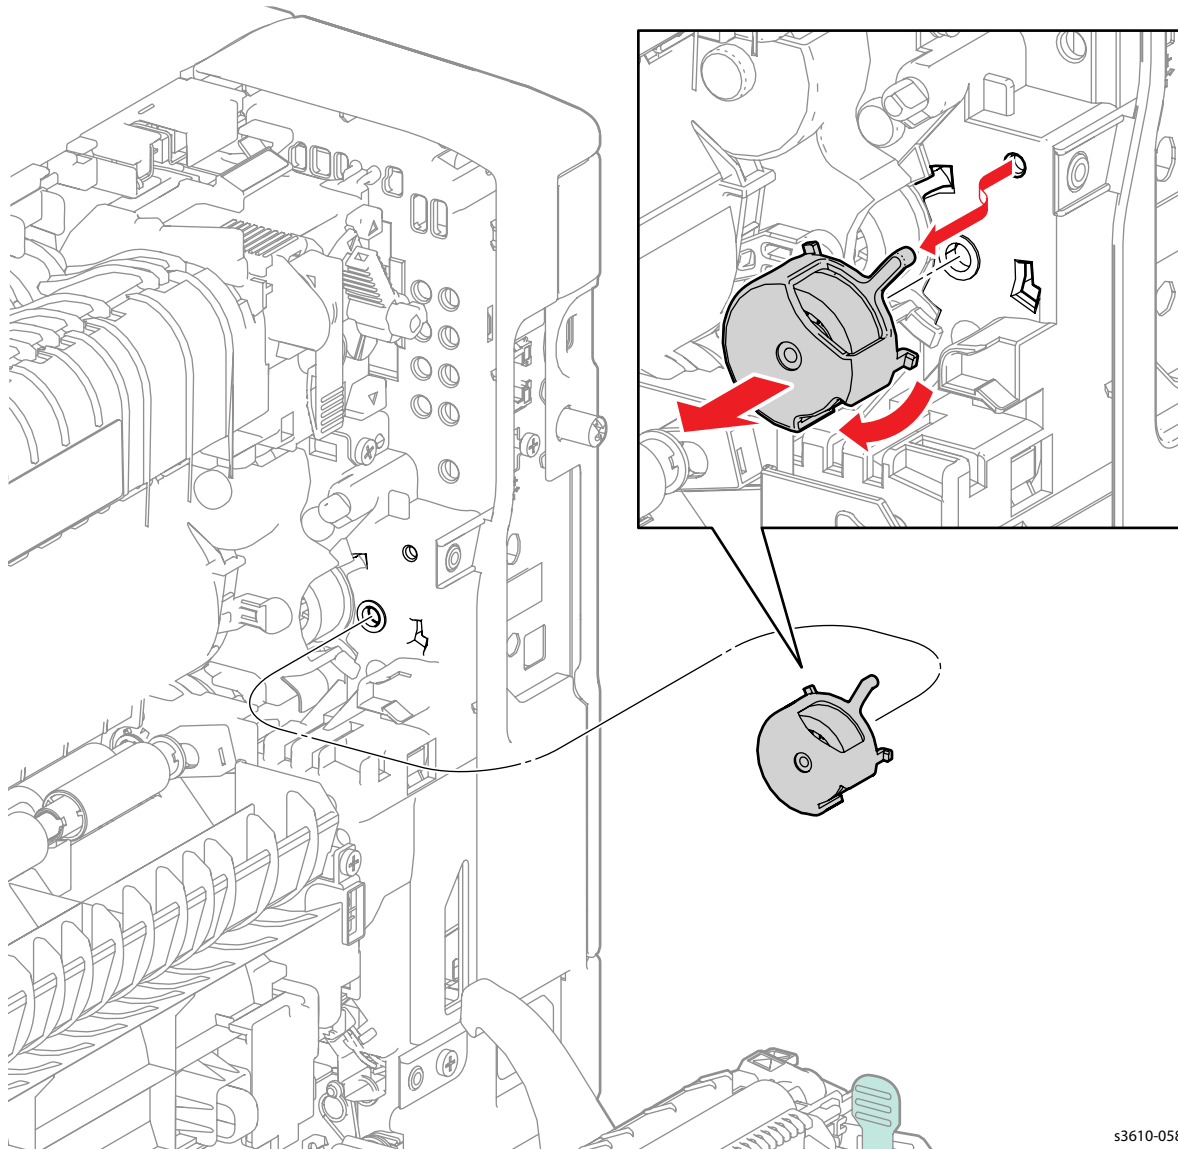

Figure 1
2. Rotate the Gear Holder clockwise while pulling the tab to remove the holder and gear. (Figure 1)